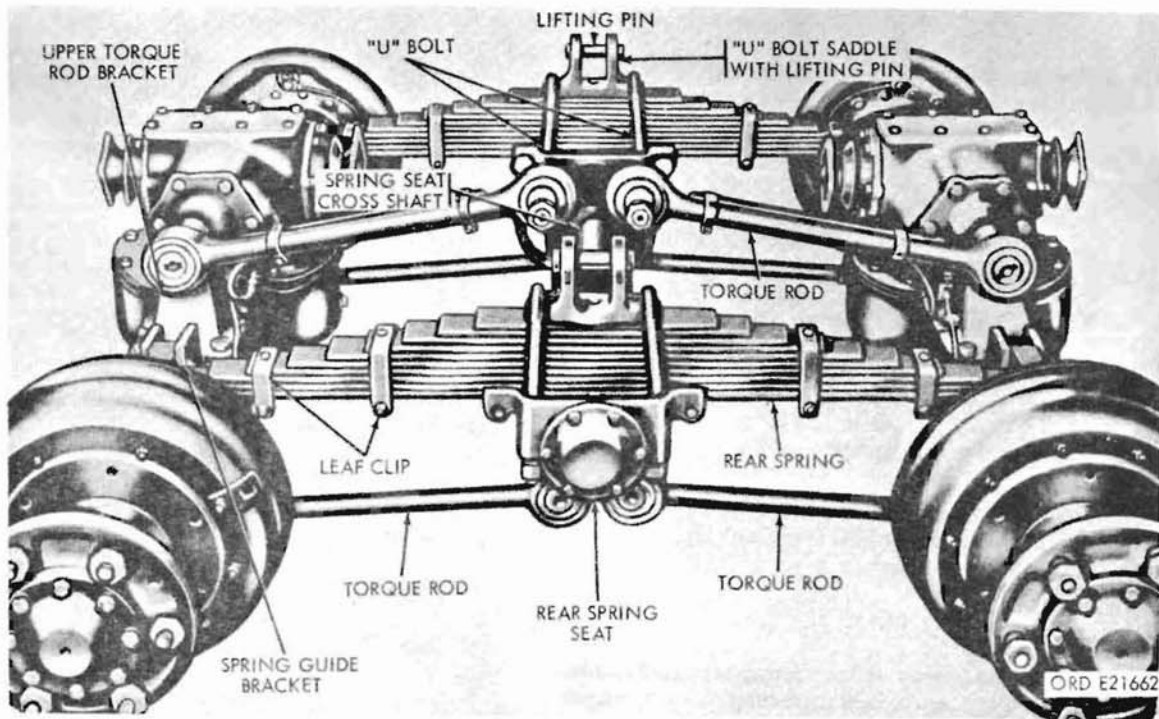

Figure 218. Rear springs and torque rods
b. Rear Springs (Fig. 218). The rear springs are inverted semielliptic type with slipper-type ends. The springs are mounted on the rear spring seats which are mounted on the spring seat cross-shaft. Each is secured to the spring seat by two U-bolts seated on the U-bolt saddle. Spring leaves are held together by a center bolt, and the leaves are alined with four rebound clips. The ends of the spring rest on axle housing and are free to slide in the guide brackets. Trucks mounted on M46 series chassis and trucks M47, M59, and M342 have
c. Rear Spring Seats (Fig. 218). The spring seat mounted on the underside of the spring is equipped with tapered roller bearings which support the seat cross-shaft.
d. Torque Rods (Fig. 218). Driving and braking forces are transmitted to the chassis by a system of torque rods arranged to maintain the vertical position of the rear-axle drives, regardless of uneven road surface. Upper and lower rods are installed on the left side of the truck, and lower rods only on the right side.
190. Rear Springs (Fig. 218)
191. Rear Spring Seats (Fig. 218)
(fig. 218)